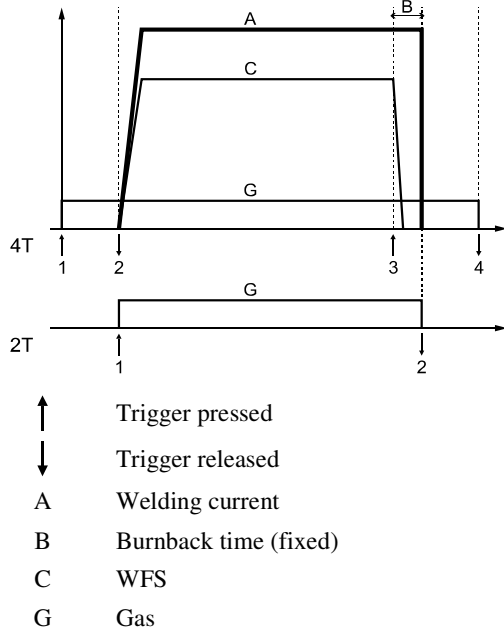

Figure 4.
14. Gun Mode Switch: It enables selection of 2-step or 4-step gun mode. The functionality of 2T/4T mode is shown in the Figure 4.